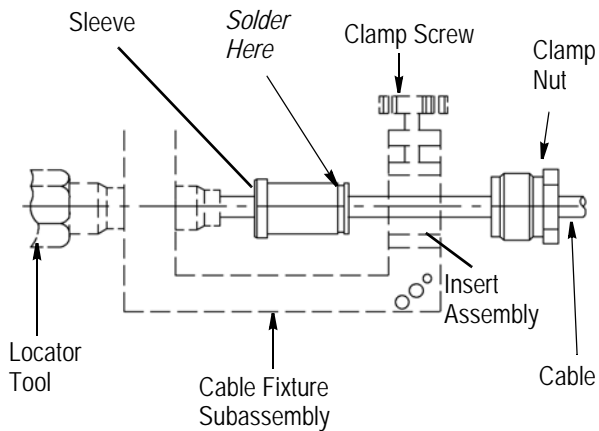

Figure 3
5. Clamp the cable fixture subassembly vertically in a vise. Slide the clamp nut away from the sleeve, and position the assembly in the cable fixture subassembly. Position the end of the cable in the locator tool. Tighten the clamp screw to secure the cable. Tighten the locator tool to seat the cable firmly. Slide the sleeve against the locator tool. See Figure 3.
6. Using solder made of 60% tin and 40% lead, join the sleeve to the cable at the location shown in Figure 3.